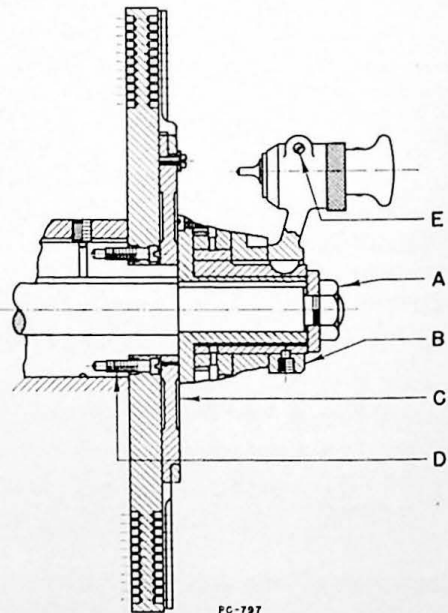

Figure 44
Adjusting the Index Pin on the Small Plate. The index pin in the crank for the small plate is eccentric to provide a method of adjusting the pin from the 100-hole to the 54-hole circle, and vice-versa. Merely loosen screw E, (Fig. 44), rotate the pin to the desired circle of holes, and then retighten the screw.
1. Remove nut "A" and the washer behind it. (Fig. 44).